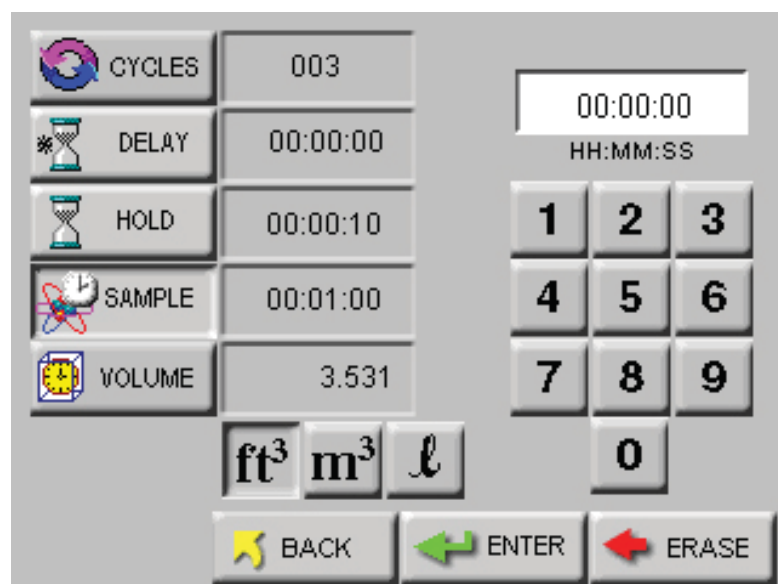

Figure 6-88 Reports Sample Screen
- Select the SAMPLE button to configure the number of Cycles, Delay time, Hold time, Sample time and Volume. See Figure 6-88.